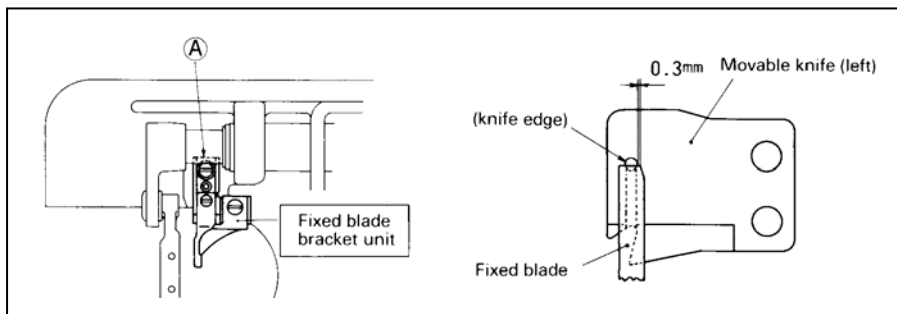

Fig.31
- (1) The standard position is illustrated as Fig.31.
- (2) The distance between the fixed blade and movable knife is 0.3mm.
- (3) The correct position of fixed blade bracket or fixed blade can be adjusted according to Fig.31.